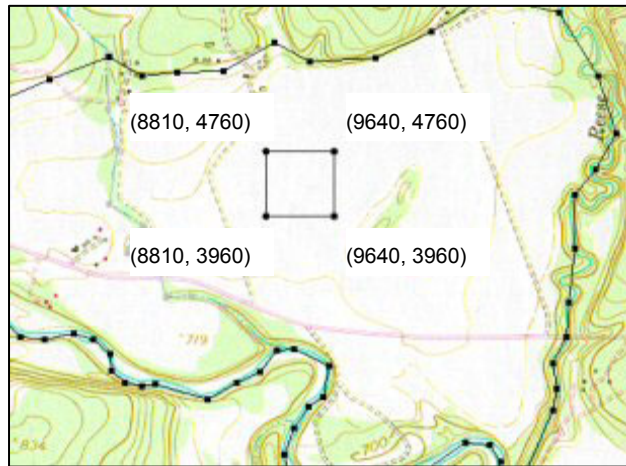

Figure 4-6 Landfill
2. Create a rectangular polygon representing the landfill as shown in Figure 4-6. Don't worry about getting the exact coordinates at this point.